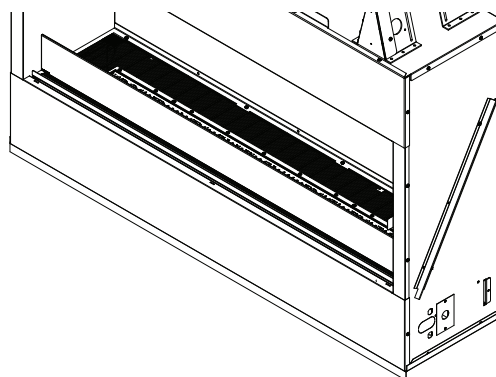

Figure 1. Attach drain pan under appliance
1. Silicone rear corners of drain pan and attach drain pan under appliance. See Figure 1.